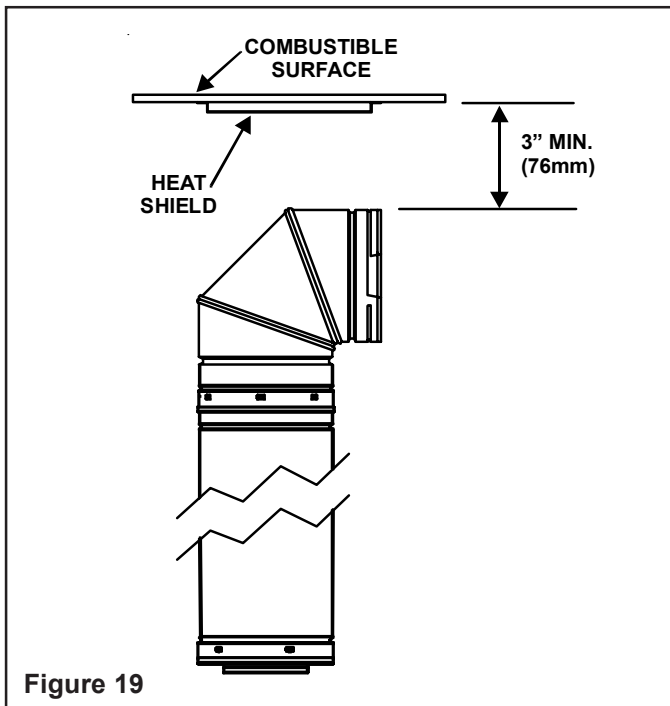

Figure 19
1. Determine if the heat shield is required. Do so by measuring the vertical distance between the top horizontal surface of the elbow to any combustible surface above. If the distance is more than 4 inches, the heat shield is **NOT** required. If it is 4 inches or less, the heat shield is **REQUIRED**. Install per the following steps. See Figure 19.